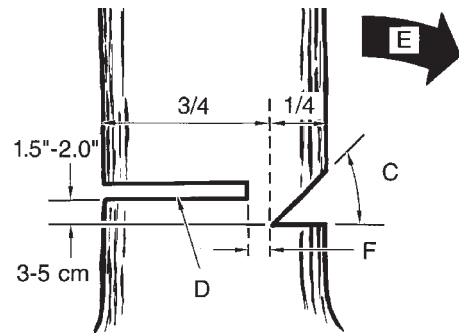

Fig. 15
Make the felling cut (D) from the other side of the tree and 1.5 - 2.0 inches (3-5 cm) above the edge of the notch (C) (Fig. 15).